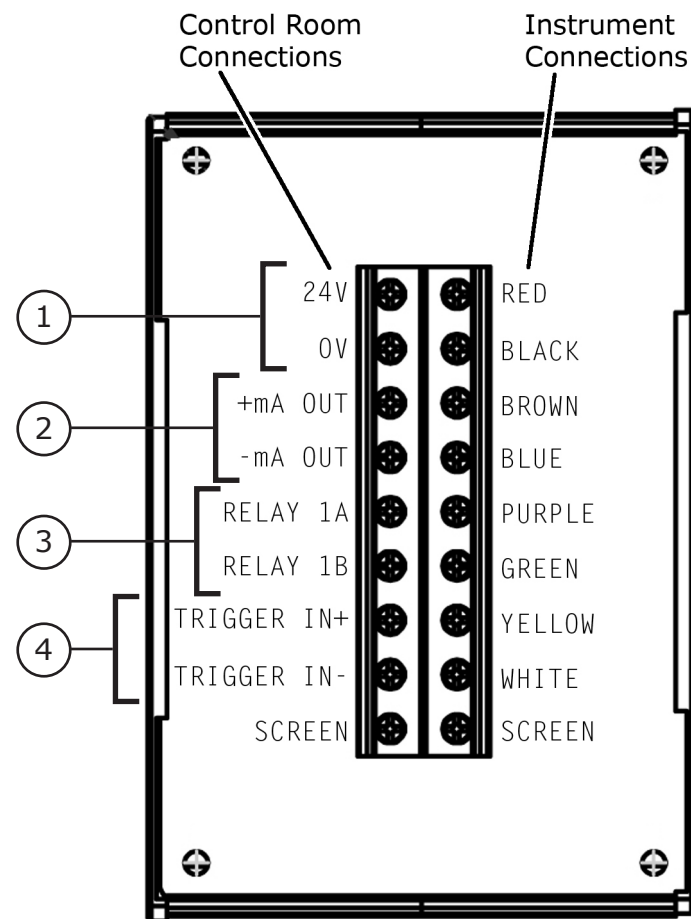

Fig. 1
- 2) Refer to **Electrical Connections** (Fig. 1). Connect the free ends of the Analogue Cable to the Instrument Connections terminals on the PCB. Make sure to match the wire colour to the appropriate terminal.
- 3) You can now use the Control Room Connections terminals to connect to the required analogue outputs from the SPOT Thermometer. Refer to Fig. 1 and the terminal labels on the PCB to identify which analogue outputs are available.